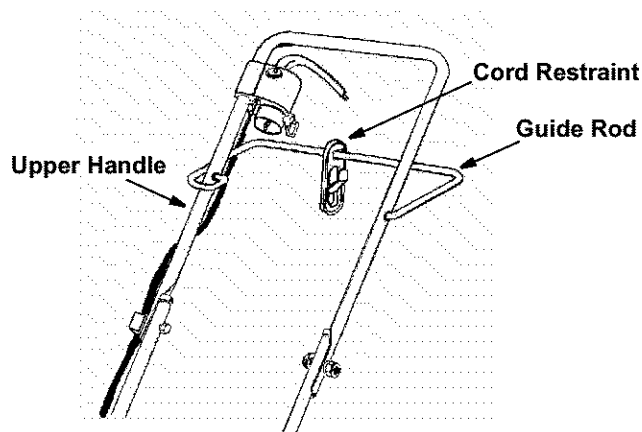

Figure 4
The guide rod and cord restraint need to be installed on the upper handle of the lawn mower. To install, see Figure 4 and continue
- Slide the cord restraint onto the guide rod as shown in Figure 4.
- With the left part of the guide rod inserted in the upper handle, bring the other end of the guide rod around the outside of the upper handle on the right side, and insert the end into the hole on the inner portion of the upper handle. Refer to Figure 4 for proper mounting position.